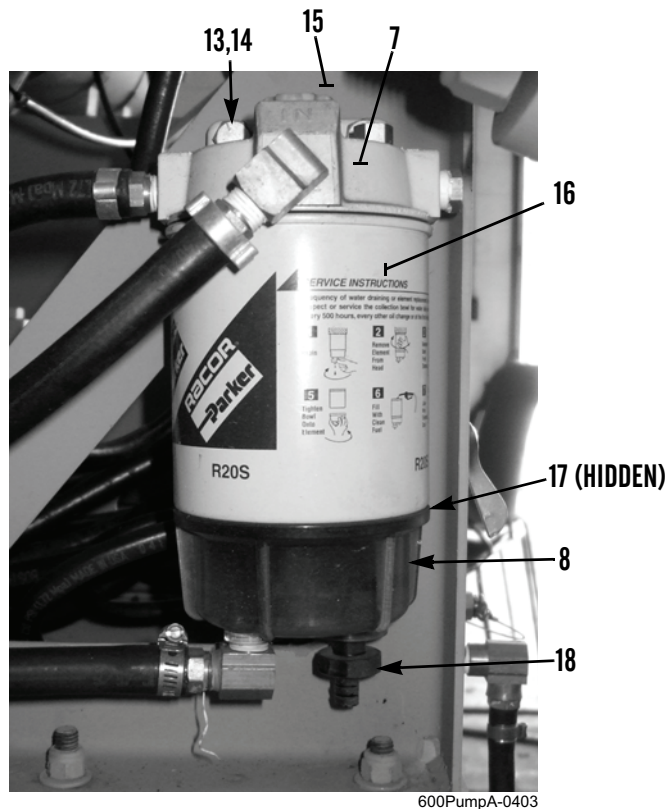

Figure 5. Fuel Filter/Water Separator.
4. Install head (Figure 5, Item 7) on control panel rear support bracket (Figure 5, Item 15) with two bolts (Figure 5, Item 13) and new locknuts (Figure 5, Item 14).
5. Install filter (Figure 5, Item 16) to head (Figure 5, Item 7) and hand tight.
6. Install new O-ring (Figure 5, Item 17), sediment bowl (Figure 5, Item 8), and drain cock (Figure 5, Item 18).